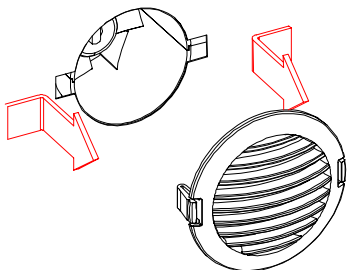

Fig. 15 Removing the fan grille
- Remove the fan grille (fig.15 ) by pressing the two lips towards each other and pulling the grille out of the machine.